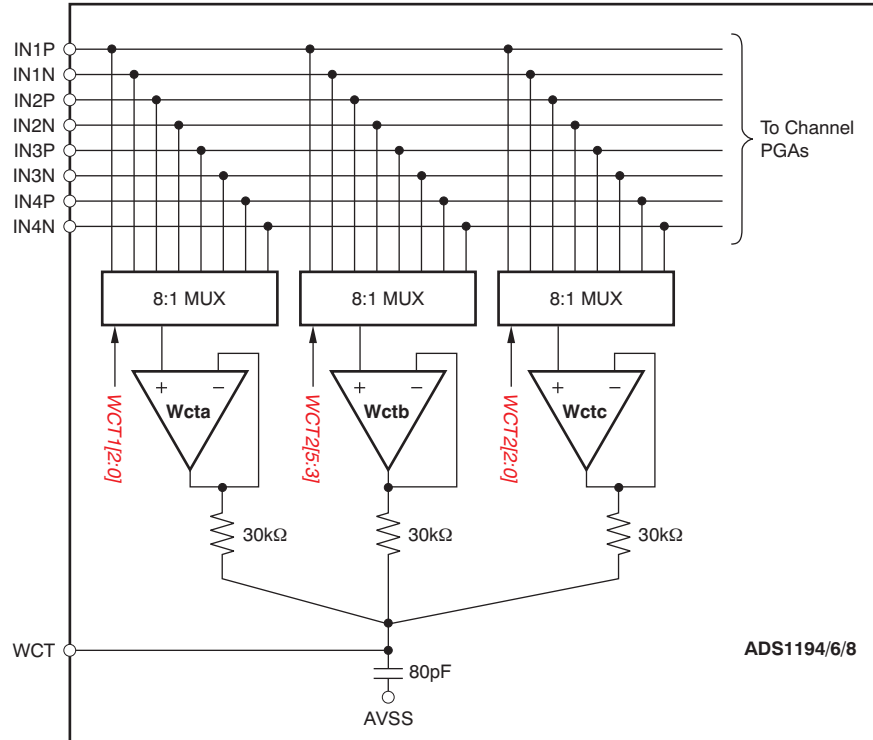

Figure 44. WCT Voltage
In the standard 12-lead ECG, WCT voltage is defined as the average of Right Arm (RA), Left Arm (LA), and Left Leg (LL) electrodes. This voltage is used as the reference voltage for the measurement of the chest leads. The ADS1194/6/8 has three integrated low-noise amplifiers that generate the WCT voltage. Figure 44 shows the block diagram of the implementation.